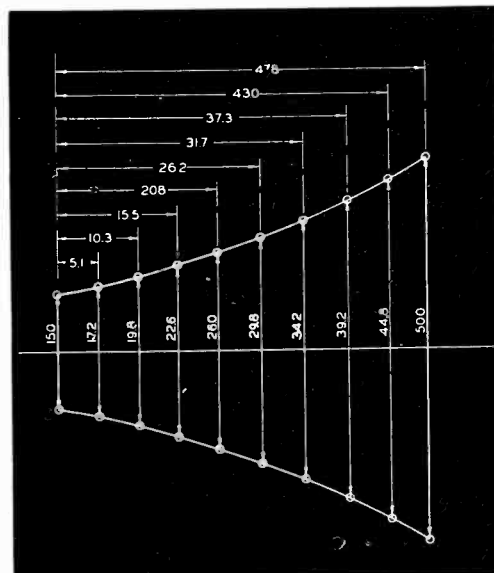

Fig. 2—Template for exponential horn of square cross section, laid out in accordance with the equations derived in this article
In a similar manner progressive values of x between 0 and 44 in. are chosen, and the corresponding values of y and L are computed from Eq. (3) and Eq. (6). With a series of such values available, the template, Fig. 2, may be laid out.